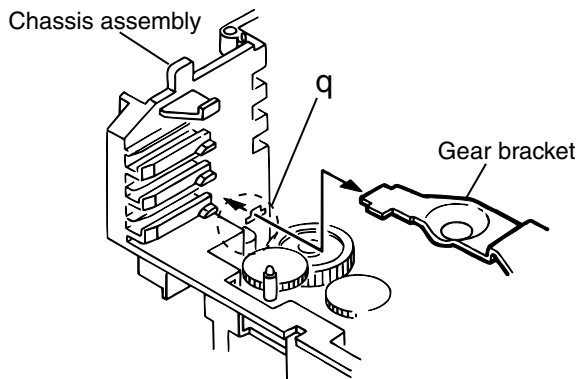

Fig.20
■ Bringing down the traverse mechanism as shown in the Fig.20
3. From the notch **q** section on the chassis assembly fixing the edge of gear bracket, remove and take out the gear bracket(See Fig. 20).